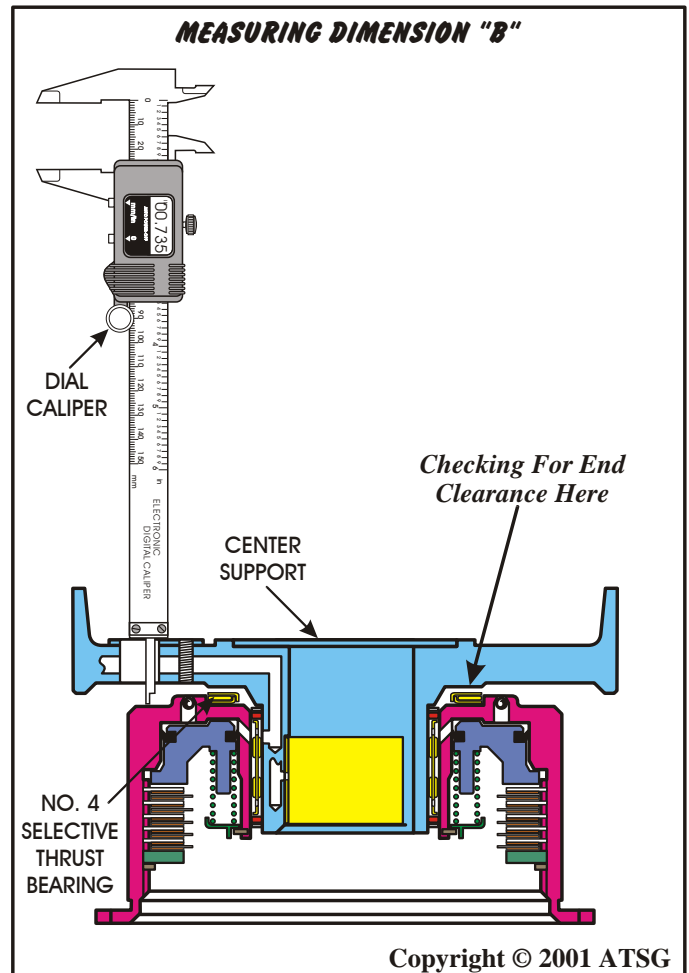

Figure 160
42. Now we must once again measure with the dial caliper through the speed sensor hole down to the surface of the direct clutch housing with all of the parts installed in the case, as shown in Figure 160, **and record this as dimension "B"**.